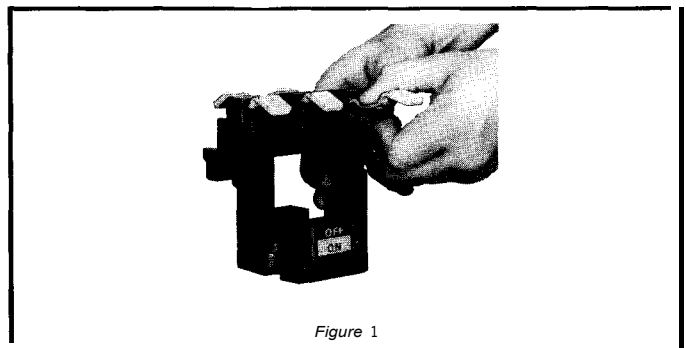

Figure 1
2. Hold the replacement spring and contact in one hand as shown in Figure 1.